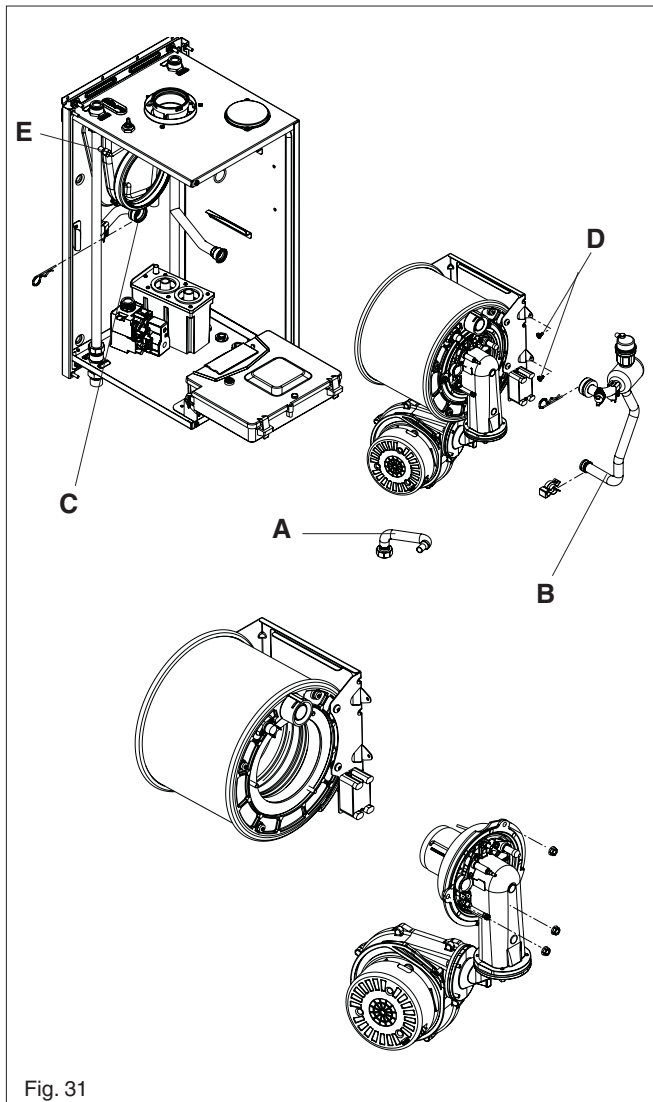

Fig. 31
6.13 MAIN HEAT EXCHANGER (fig.31)